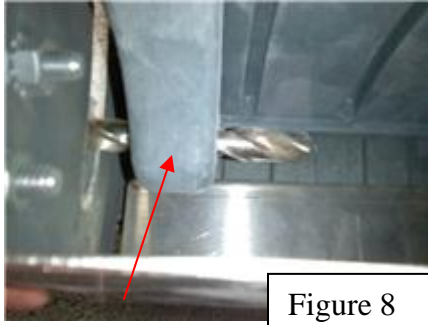

Figure 8
13. Use ½" Drill bit to Drill through Ejector Casting (figure 8,9)